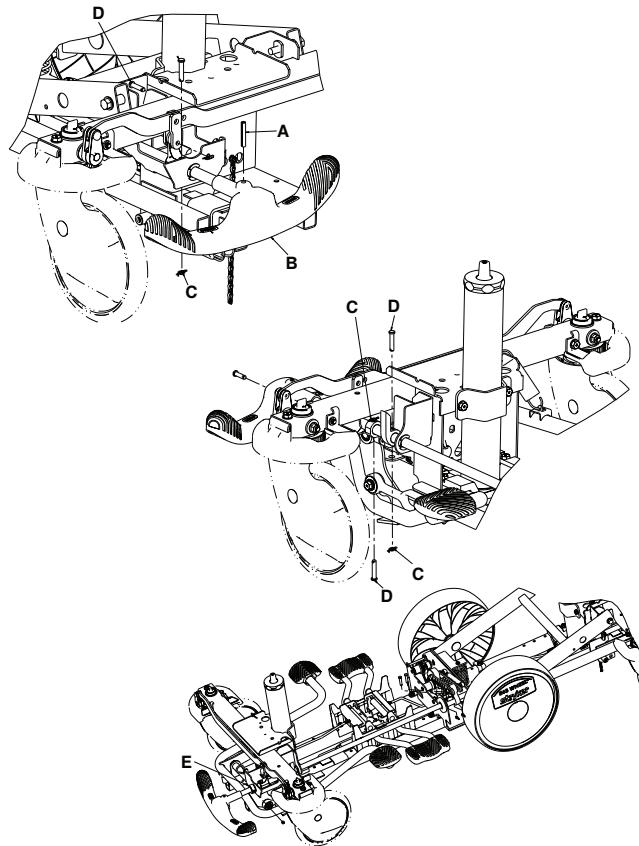

Figure 6 – Replace the brake rod
3. Using a hammer and a 7/32" #7 roll pin punch, remove the two pins (A) that secure the brake/steer pedal (B) to the brake rod. Remove the brake/steer pedals (Figure 6).